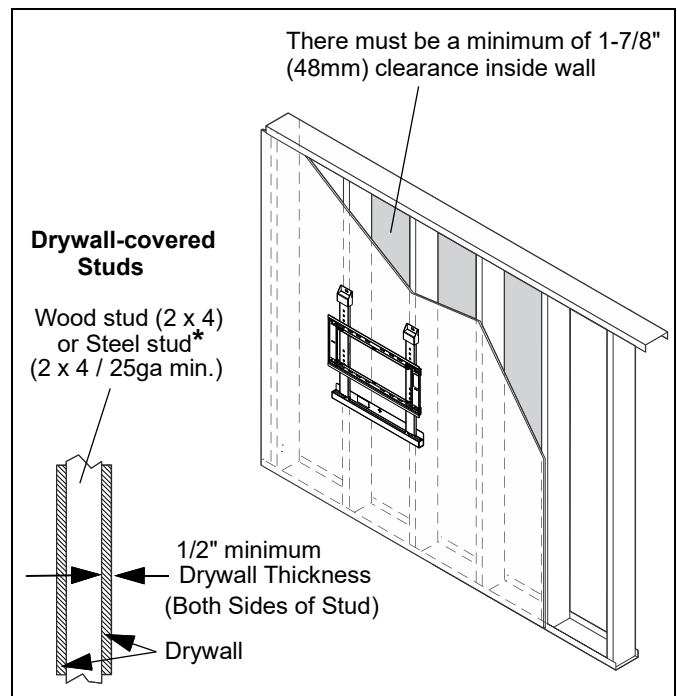

**Figure 11**
6. Insert 1/4-20 x 1-3/4" Phillips pan head screw (F) through 1/4" washer (G), corresponding mounting hole in wall bracket and into anchor (H), and tighten until flush against wall bracket. DO NOT over-tighten! (See Figure 11)